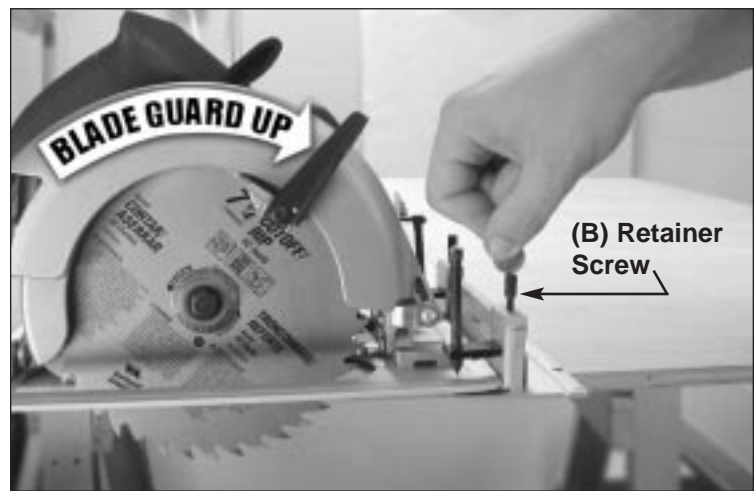

Fig. 7
With everything in position as instructed, now tighten the Retainer Screws (B). Use a **COIN OR SMALL SCREWDRIVER** to firmly tighten these screws as shown in Fig. 7. The Retainer Screws are designed to hold the L-Brackets and T-Bolts in the position you choose for **YOUR** saw. The next time you attach the Rip Master to your saw, the L-Brackets and T-Bolts will already be set in this position, making re-attaching the Rip Master quicker and easier. Your Rip Master is now set for your saw. Should it be necessary to reset the Rip Master for your saw, repeat steps 1 thru 7.